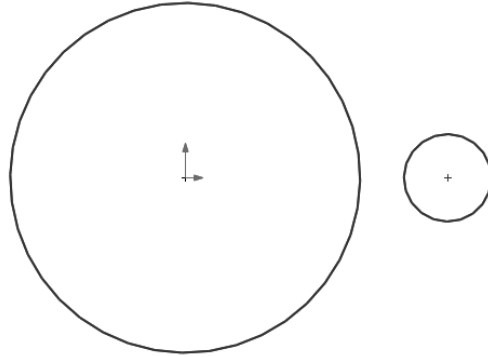

Figure 3-5 Sketch after drawing circles
- Draw outer loop of the sketch, refer to Figures 3-5 through 3-11.
9. Move the cursor horizontally towards the right and click the left mouse button when the radius above the cursor shows 10 mm. Next, exit the tool by right-clicking in the drawing area and choosing the **Select** tool from the shortcut menu. Figure 3-5, shows the sketch after drawing the circles of 120 mm and 20 mm diameters.